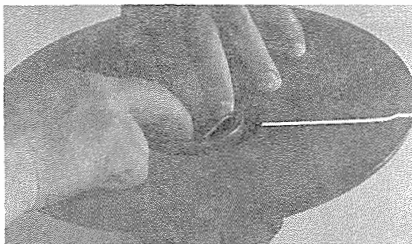

Figure 27
1. Moisten the I.D. of the adjustable flange with oil. Moisten the two new o-rings with oil and place in their grooves, making sure that they are seated completely (Figure 27).